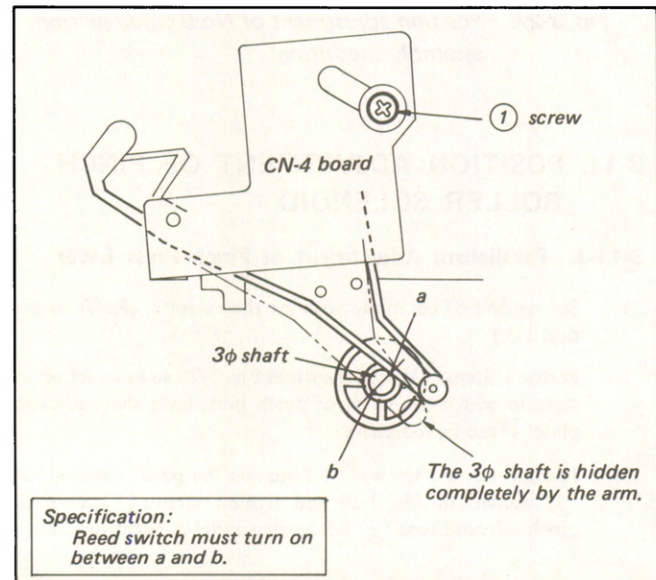

Fig. 3-32. Position adjustment of slack sensor operation
2. Loosen screw (1) and adjust the CN-4 board position to satisfy the specification shown in Fig. 3-32.